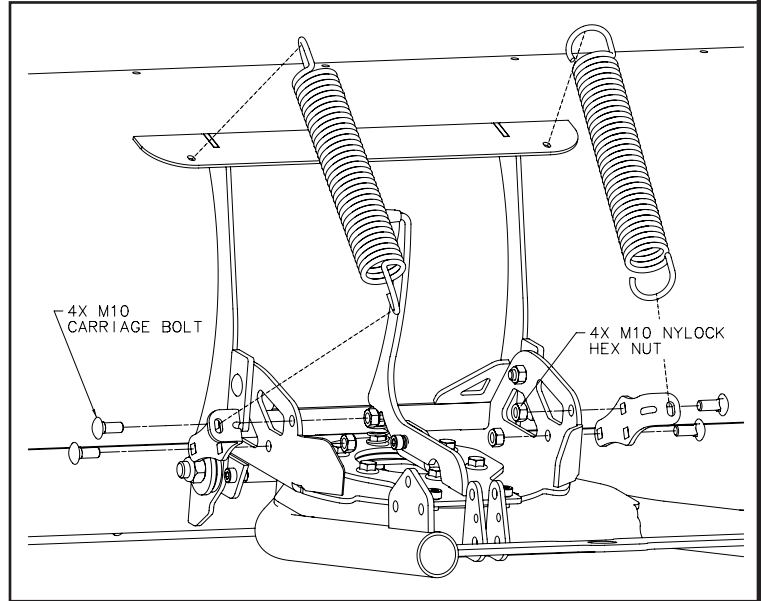

Figure 1
1. Remove the two plow springs by removing the nuts and carriage bolts. See Figure 1.